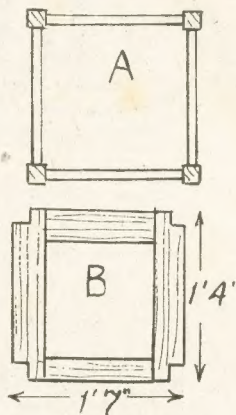

Fig. 4—Plan of seat frames
A plan view of the framework (arm rests omitted) is given in Fig. 4 (A), which will help to make clear some of the above details of construction. On